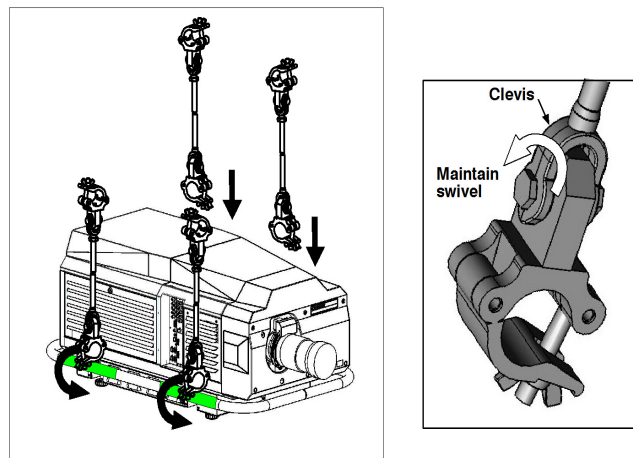
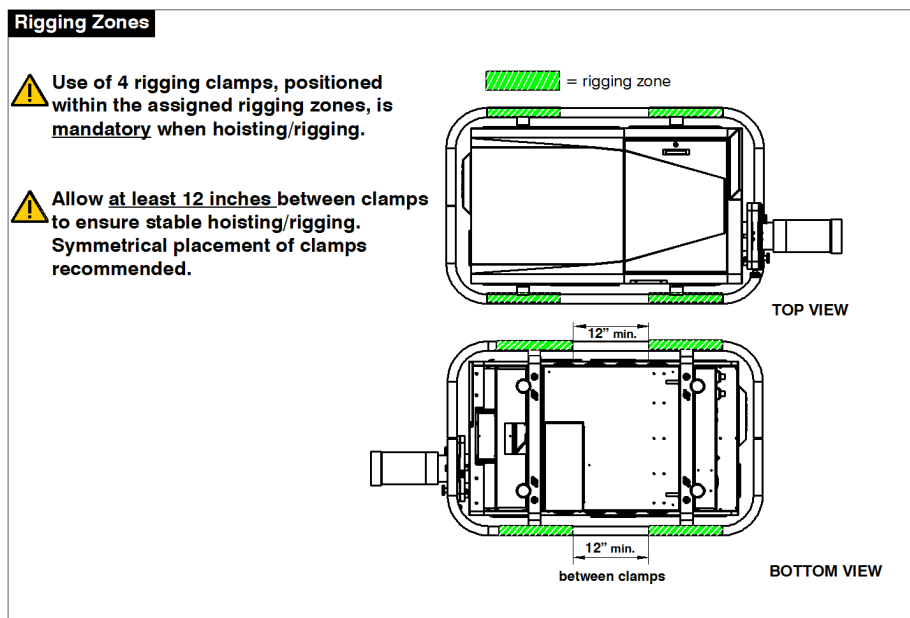

Figure 2-5 Securing Clamps to Projection Head
Figure 2-6 Rigging Zones on Projector Handles
2. Clamp the 4 rigging clamps to the projector's handles staying within the assigned rigging zones. See *Figure 2-5* and *Figure 2-6*, and allow a minimum of 12 inches between clamps for proper stability. Do not tighten the cross bolt of the clevis arms to ensure the rigging clamp can swivel freely.
See *Figure 2-6*.